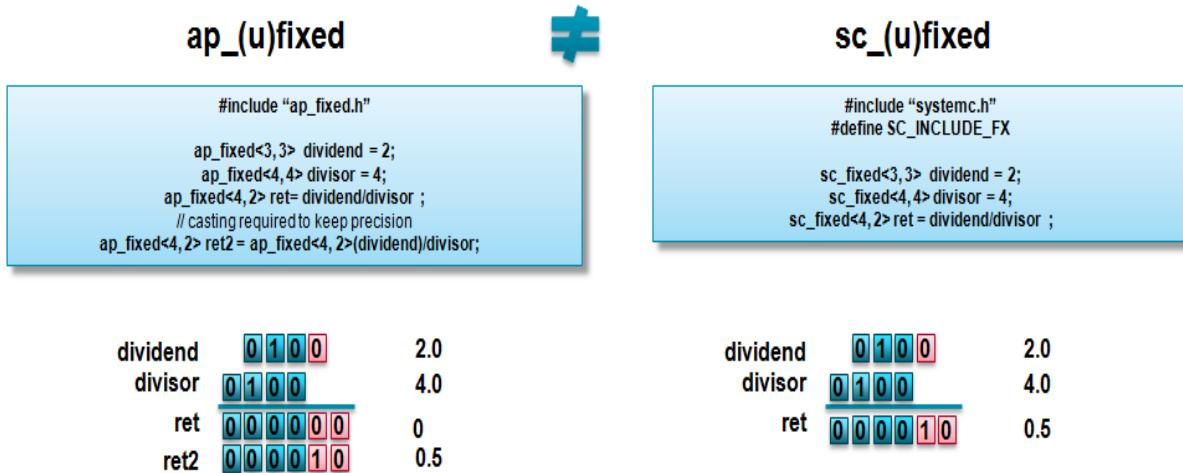

Figure 3-16: Fixed-Point Division Differences
- Figure 3-16 shows an example of this operation for both Vivado HLS and SystemC types.